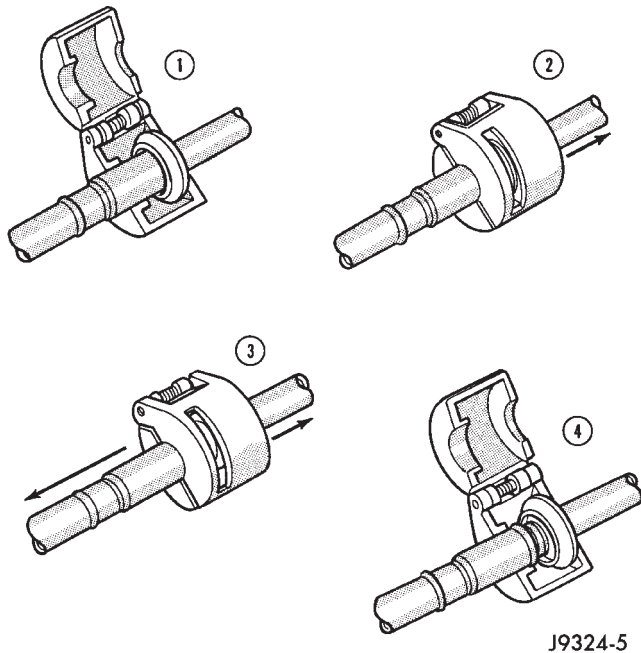

Fig. 14 Refrigerant Line Spring-Lock Coupler Disconnect
(1) Recover the refrigerant from the refrigerant system. See Refrigerant Recovery in the Service Procedures section of this group.
(2) Remove the secondary clip from the spring-lock coupler.
(3) Fit the proper size A/C line disconnect tool (Special Tool Kit 7193) over the spring-lock coupler cage (Fig. 14).
(4) Close the two halves of the A/C line disconnect tool around the spring-lock coupler.